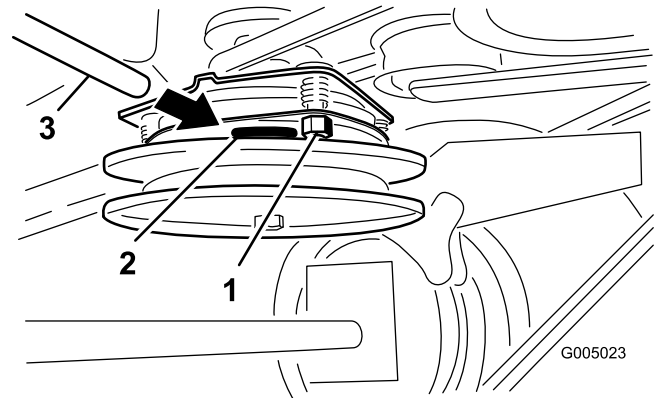

Figure 37
2. Tighten the lock nuts until there is slight binding on the feeler gauge but it can be moved easily within the air gap (Figure 37).